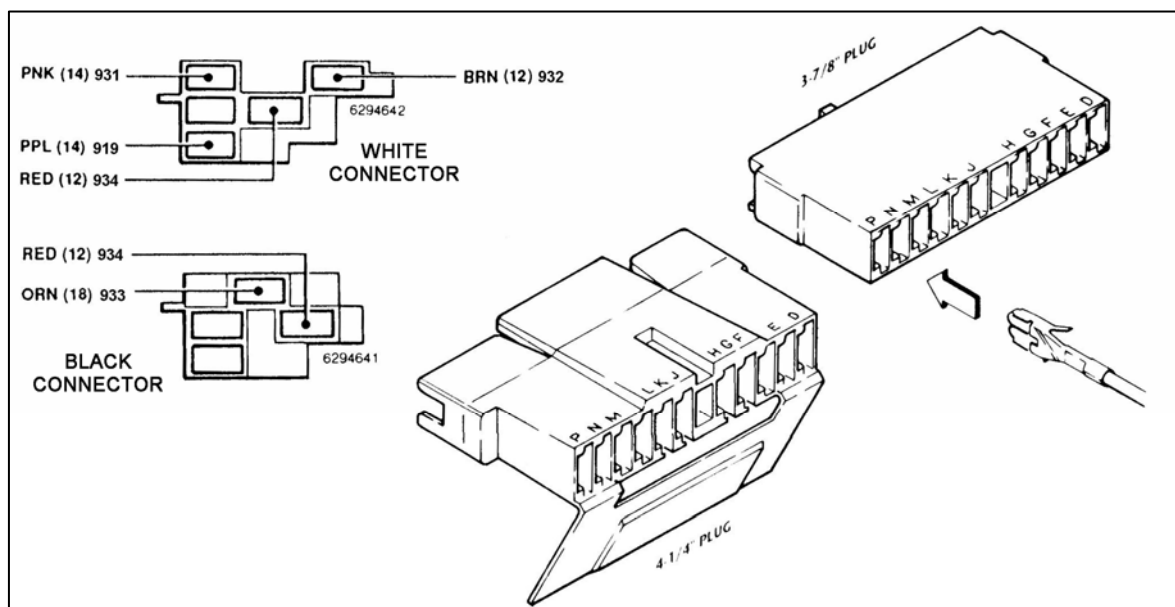

Figure 7-5 GM Turn Signal Connectors
- 7.4.1** There are two different plugs on most tilt columns. The difference is in the length of the male plug that is mounted ON THE COLUMN. One plug is 3-7/8" (3.875") long and the other is 4-1/4" (4.250"). This is only a difference of 3/8" (0.375"), so measure the plug carefully. The Wire Harness Kit has included two different female connectors to mate with the column-mounted plug. See **Figure 7-5** to determine which female connector is correct for your automobile.
The TURN SIGNAL SECTION wires may have already been terminated for you. If not, cut wires to length and install the terminals provided. Choose the proper plug and install the terminals according to **Table 7-1**, as shown in **Figure 7-5**. The GM wire color codes have been included for reference. **Note:** The terminals will only insert into the connector ONE WAY, as shown in **Figure 7-5**. Make certain you are inserting the wire into the CORRECT LOCATION as the terminals are difficult if not impossible to remove once inserted.
- 7.4.2** The Steering Column Wiring comes with GM ignition switch connectors pre-wired. See **Table 7-1** and **Figure 7-5** for color codes, wire numbers, and wire designations for the Ignition Switch Connectors.